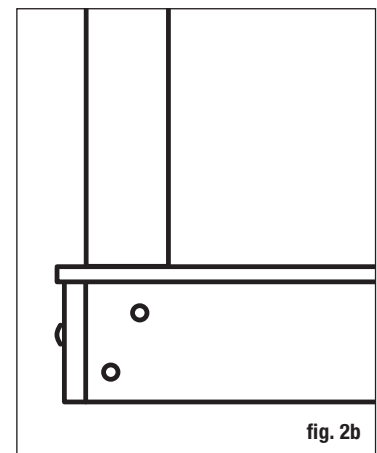

fig. 2b
**Step 3:** Position, plumb with a level, and clamp the rail post on the interior face of the joist. Plumb again. The 4x4 railing post should be bolted to the inside of the joists using two 1/2"x6" galvanized carriage bolts. Corner posts use a third carriage bolt inserted through the adjacent joist (fig. 2b).